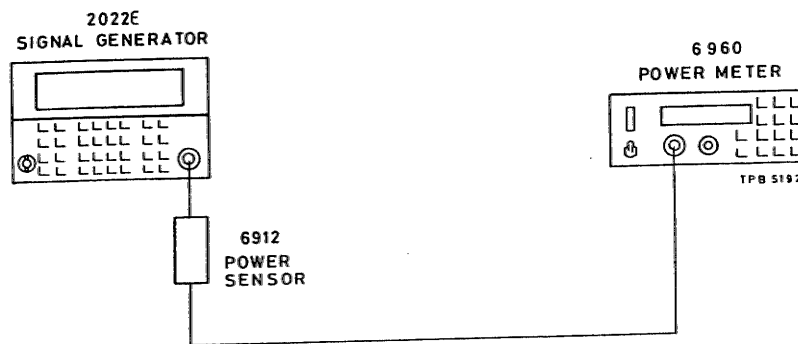

Fig. 5-3 Test gear arrangement to check RF output
(1) Connect test equipment as shown in Fig. 5-3 and set the 2022E controls as follows :